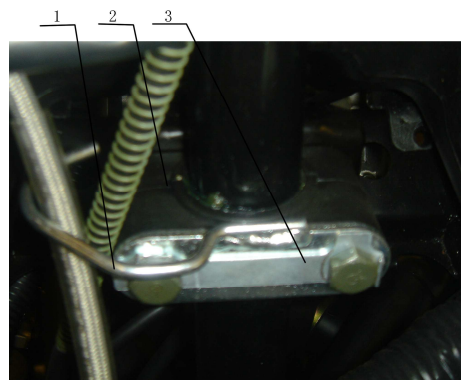

Figure 4-1-5
(Figure 4-1-5)
5. Check whether the supporting bracket is firmly fixed to the steering vertical column. Figure 4-1-5